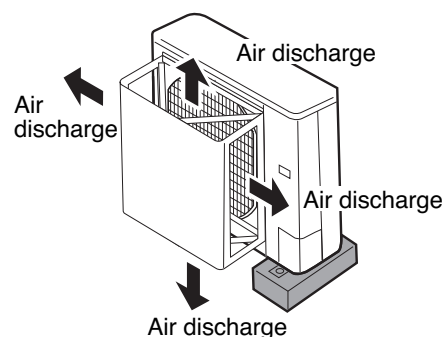

Fig. 5e
- In locations with high winds, a wind-proof duct should be fitted and direct exposure to the wind should be avoided as much as possible. (Fig. 5e)